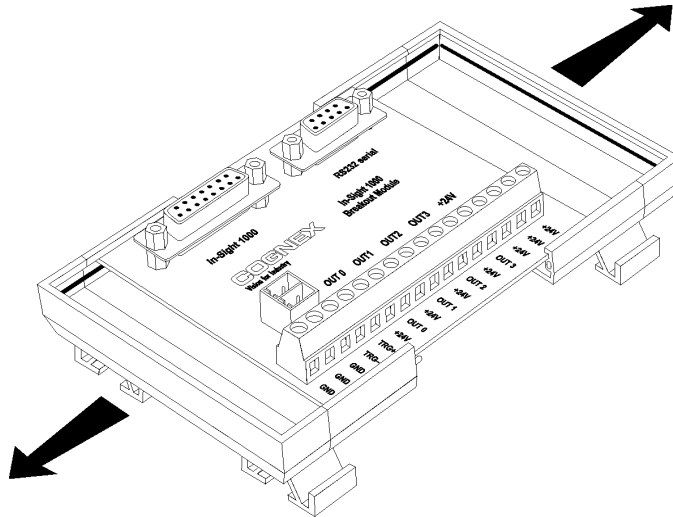

Figure 3. Removing the Breakout Module Frame
- a. Remove the two halves of the Breakout Module plastic frame by firmly gripping the ends and pulling them apart (Figure 3).